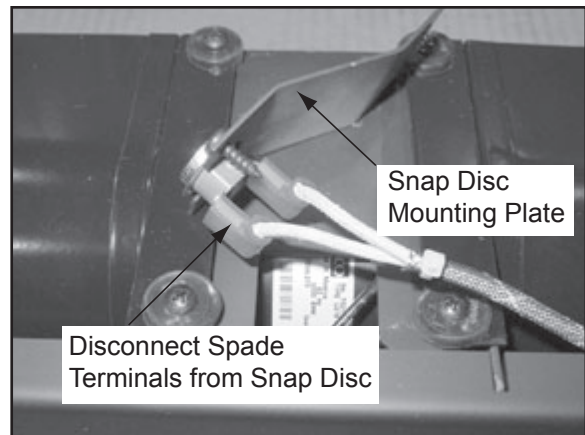

Figure 20.4
4. Remove the snap disc mounting plate by removing the 2 sheet metal screws with a Phillips head screw driver (**Figure 20.4**).
5. Disconnect the spade terminals to the snap disc (**Figure 20.4**).